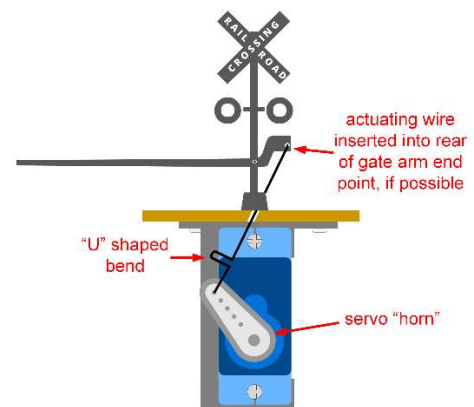

Figure 6 – Servo motor mounting
2. Some commercial crossing gates come with an actuating wire while other do not. Regardless, we recommend that you use “piano” or “music” wire (e.g. K&S Precision Metals) with a diameter of 0.015” to 0.025”. Refer to Figure 6 at right. It is recommended to make a “U” shaped bend in the wire close to where it will insert into the servo “horn”; this will allow you to tweak the movement. Ideally the wire should be attached as far away as possible from the pivot/rotation point. **Do NOT attach the other end of the wire into the servo horn yet!**
3. Drill a hole through any scenery and layout base at angle of approximately 30 – 35 degrees from horizontal. The hole should be approximately centered with the signal mast as illustrated in Figure 6.
photocell as this may prevent it from operating properly. Figure 6 illustrates the photocell wiring; make sure you have the photocells in the correct order as shown at the top of page 1. Photocells do not have any polarity so you can connect either lead to the GND terminal and connect the remaining lead to the appropriate photocell input.